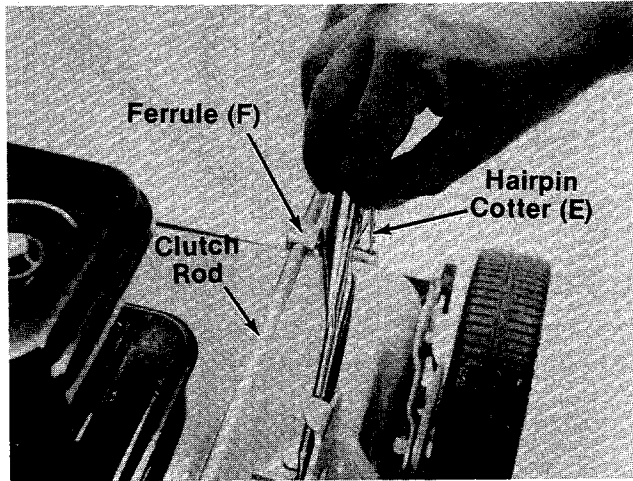

FIGURE 11.
17. Thread the clutch rod into the ferrule (F) until the ferrule lines up with the hole in the lower handle. Secure ferrule in handle with cotter pin (E) as shown in figure 11. Check for 1/8" clearance between drive pinion and front wheels. **See clutch rod adjustment** on page 11. ←
1. Remove the cotter pin. See figure 11.